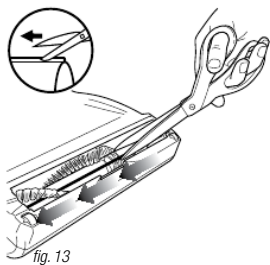

fig. 13
- 4 Inspect the rotating brush for a build-up of debris. Remove anything wound around the brush by carefully cutting it with scissors. The brush roll is equipped with a raised cutting guide to make inserting scissors easier. Avoid damaging or cutting the bristles. (fig. 13)